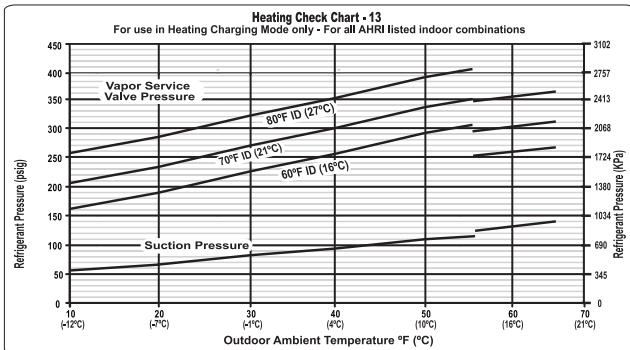

Fig. 27 – Heating Pressure Check Chart 25VNA813
**Heating Check Chart Procedure (See Fig.27 - 33)
To use the Heating Check Chart, the user interface (UI) must be in Refrigerant Charging mode selected from the Installation and Service screen. The Charging Mode Selection screen will show selections for Weigh-In Charge Method or Heating Check Charge Method. Select Heating Check Charge Method. The Heating Check Charge method will only be displayed if the conditions are right for checking the charge in heating mode. When Heating Check Charge Method is selected, the system will operate by running in stage 5 with appropriate outdoor fan speed and indoor airflow. Upon completion of a countdown period for system stabilization, check refrigerant pressures for the appropriate ambient temperatures shown in Fig. 27 through 33 based the OD unit size.